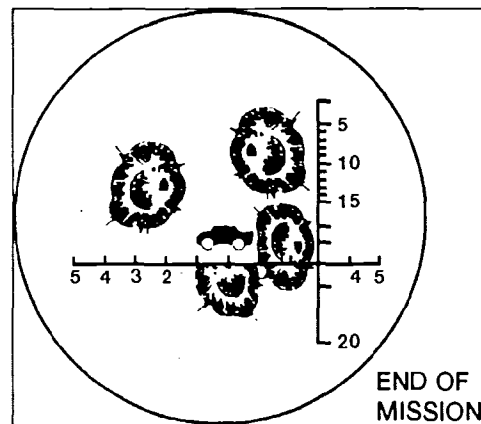

Figure 061-283-6003-8. Fire for Effect Pattern
5. Observe the results of fire for effect, transmit refinements (if necessary), and provide end of mission and surveillance (figure 061-283-6003-9).